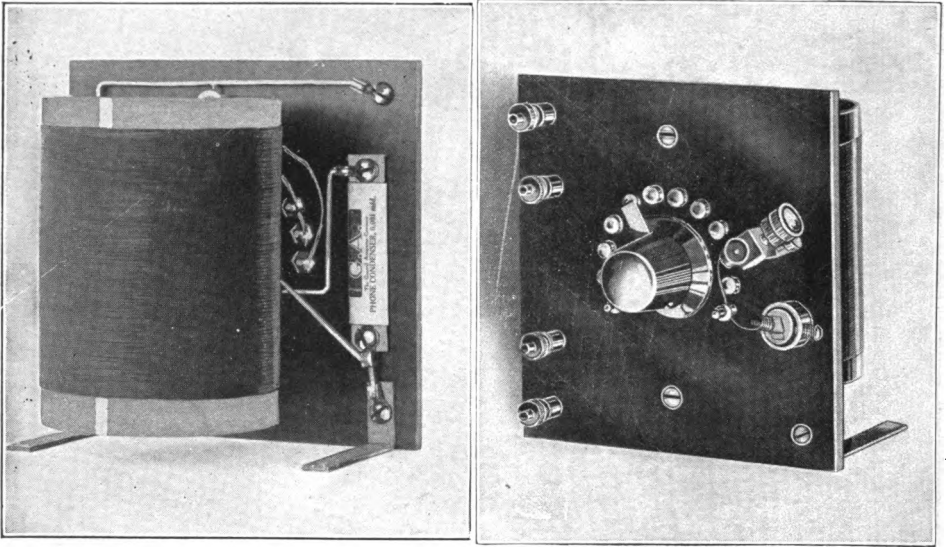

Fig. 1. Front and rear views of the beginner's receiver. Note the simplicity of the wiring and assembly.
**A Beginner's Outfit.** A receiving set which conforms with the requirements just given is shown in Fig. 1. Built on a standard 5- by 5-in. panel, all the parts are conveniently located and so connected that there is no mystery about the circuit. This outfit is commonly known as a single-circuit receiver, a type that brings in